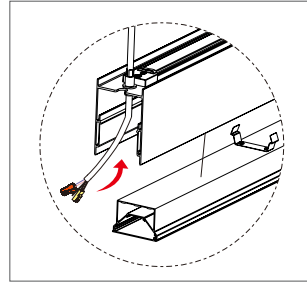

FIGURE 3-2
2) Take off LED module, thread the power cord into the cord feed as shown in Figure 3-2.